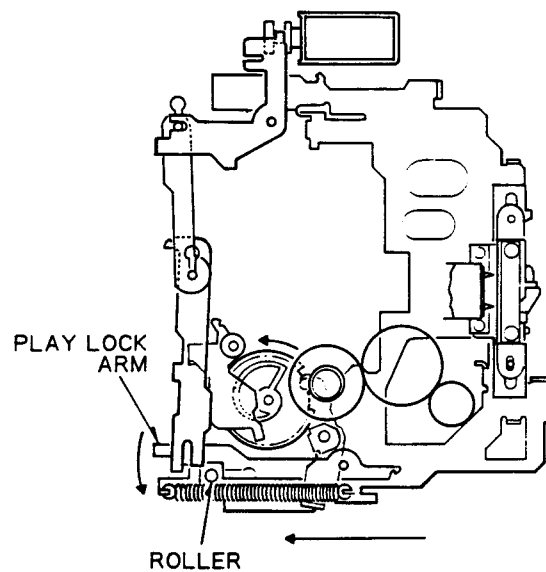

Fig. 16
(2) Fig. 16 shows the state at end of heading operation.